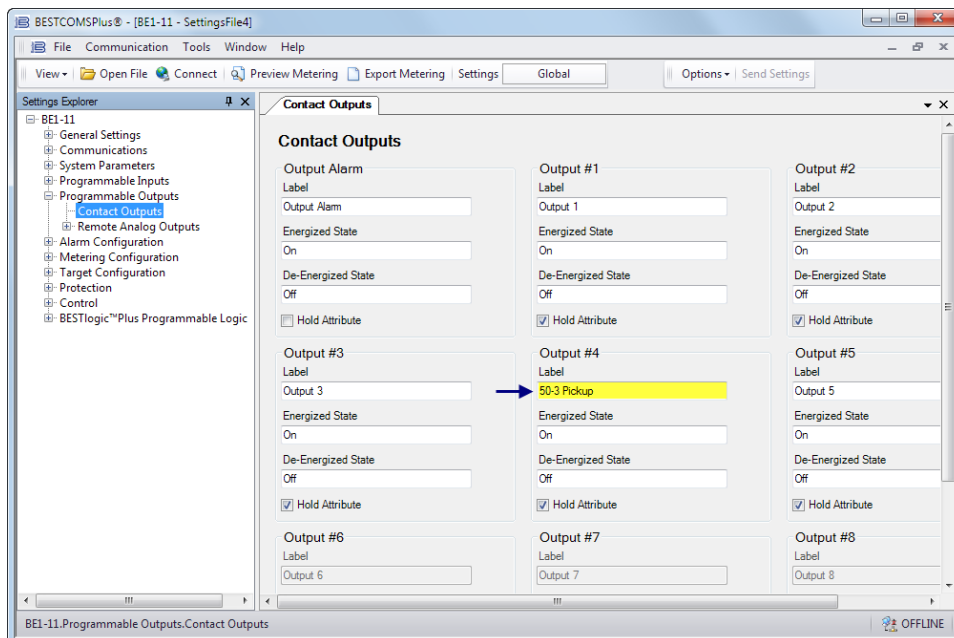

Figure 2-19. Contact Outputs Screen
Step 13: In the Settings Explorer, expand Programmable Outputs, Contact Outputs, and name Output #4 (50-3 Pickup) as shown in Figure 2-19.